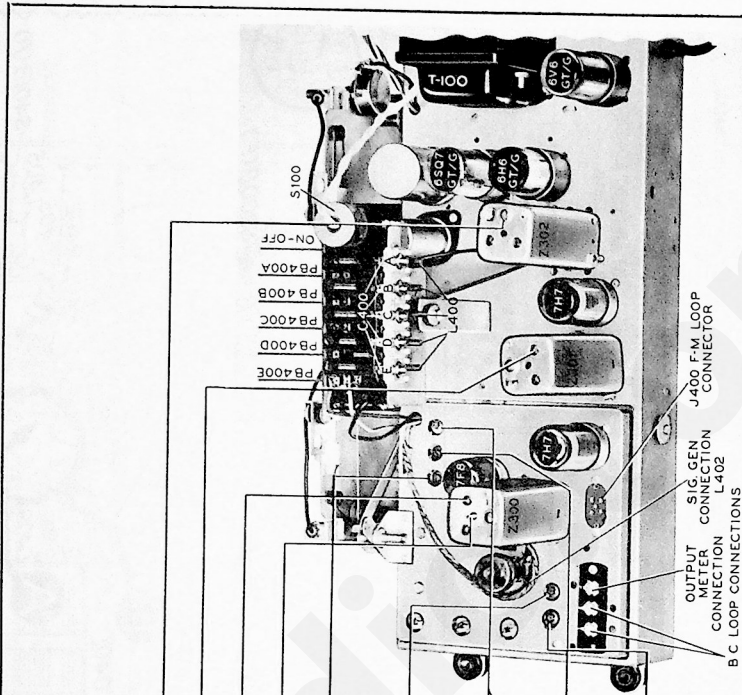

Figure 11. Chassis View, Showing AM Trimmer Locations.
- 6 Starting with the lowest frequency desired, set the signal-generator frequency, push the button, and adjust the associated oscillator tuning core and aerial trimmer condenser (see figure 11) for maximum indication on the output meter. Reset the signal-generator frequency, and repeat the procedure for each remaining push button.